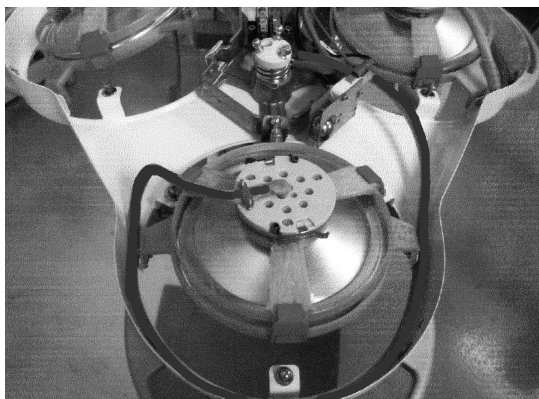

Fig. 1
- Run the cable (see figure 1)